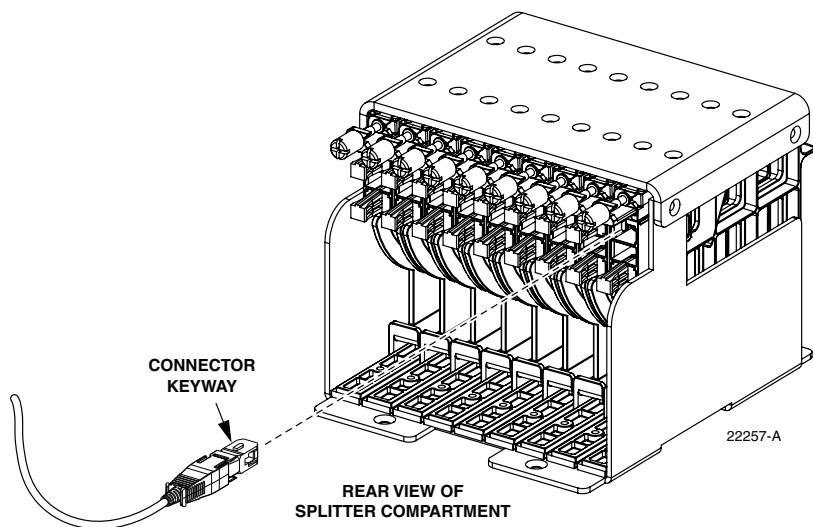

Figure 75. Feeder Cable Connector
9. Insert the feeder fiber connector into the appropriate bulkhead adapter (remove dust cap from adapter) at the rear of the splitter compartment as shown in Figure 75.